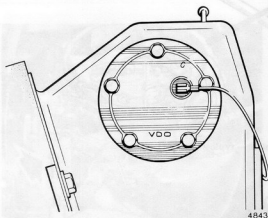

Fig. 3.40. Fuel gauge sender unit (Sec. 12)
- 2 The fuel gauge sender unit is secured to the top section of the tank by five screws. It is a non-repairable item and if faulty must be replaced with a new unit. When refitting the sender unit, ensure that the wiring terminal is at the 2 o'clock position (see Fig. 3.40).